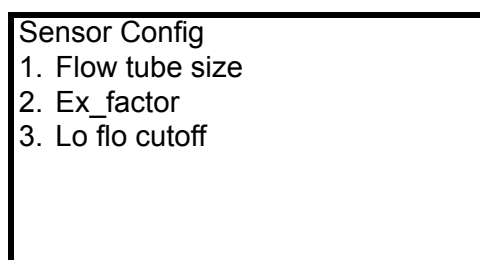

Figure 16 Sensor config menu
4. From the Sensor Config menu (Figure 16), select “1. Flow tube size”.
- From the Sensor Config menu (Figure 16), select “2. Ex_factor”.
1. From the Sensor Config menu (Figure 16), select “3. Lo flo cutoff”.